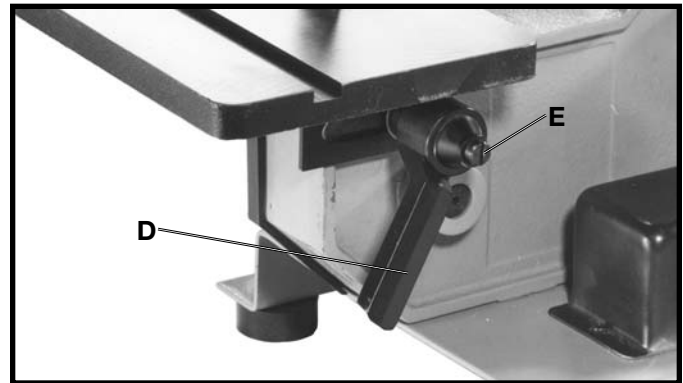

Fig. 18
3. Assemble handle (D) Fig. 18, to locking stud and fasten with screw (E) and spring.
4. **NOTE:** The locking handle (D) Fig. 18, is spring-loaded and can be repositioned by pulling out the handle and repositioning it on the serrated stud located underneath the handle.